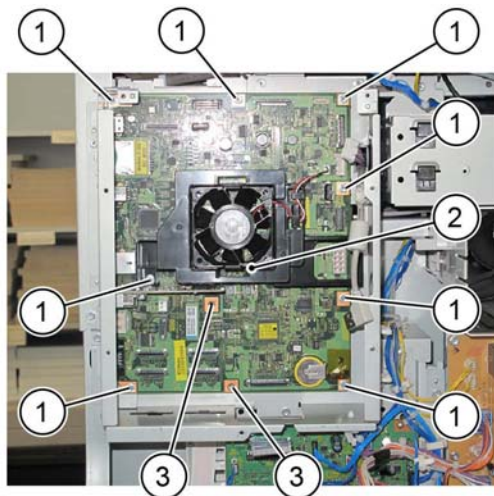

Figure 12 ESS PWB removal
13. Remove the ESS PWB, Figure 12:
- a. Remove eight screws (1).
- b. Remove the ESS fan (2).
- c. For machines without an HDD, remove both screws (3).